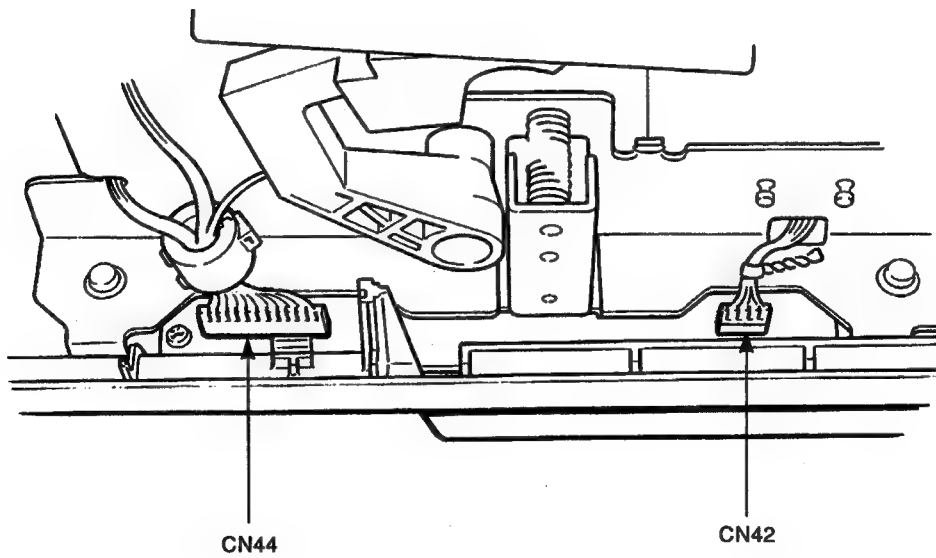

Figure 3-42 Connectors CN42 and CN44
7. Disconnect CN42 and CN44 from the connection board (see Figure 3-42).